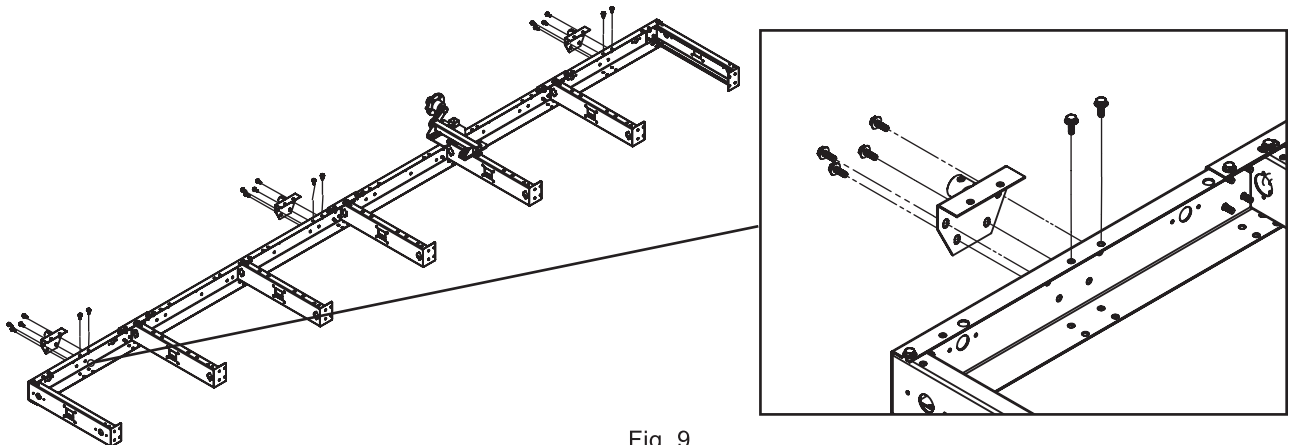

Fig. 9
Step 13: Install the Leveling Jack Connecting Plates. Install the three Leveling Jack Connecting plates (#9), spaced equally along the side and using six M10 x 30mm Bolts (#1) and M10 Nuts (#2) per connecting plate as shown (Fig. 9)